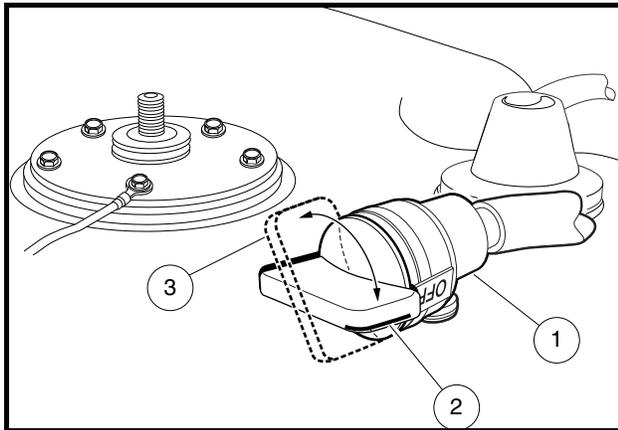

Figure 3-10 Fuel Shut-off Valve
- Gasoline vehicles only: Turn fuel shut-off valve to the closed (OFF) position (Figure 3-10, Page 3-6).
4. **Gasoline vehicles only:** Completely open the fuel shut-off valve (**Figure 3-10, Page 3-6**). Ensure that the valve is fully open. A partially closed fuel shut-off valve combined with the use of the choke can result in a fouled spark plug and engine failure.